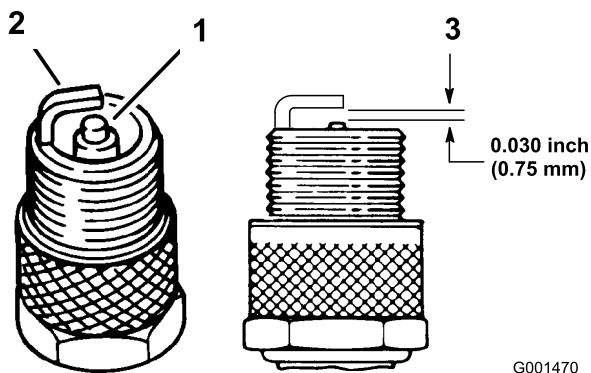

Figure 43
1. Look at the center of the spark plugs (Figure 43). If you see light brown or gray on the insulator, the engine is operating properly. A black coating on the insulator usually means that the air cleaner is dirty.
2. Check the gap between the center and side electrodes (Figure 43). Bend the side electrode (Figure 43) if the gap is not correct.